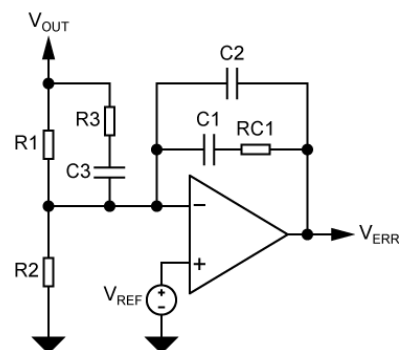

Figure 14. Type II Compensation Network
Due to the output capacitor ESR creating a zero within the range of the desired crossover frequency (F_{CO}), this design only requires that one adds one zero and one associated pole. The phase boost in this case occurs between the zero (FZ) and the pole (FP) of the compensator. Therefore, the zero gain crossover frequency (F_{CO}) will be between these two points. The zero is created by $RC1$ and $C1$. The pole should be set at $\leq$ one half switching frequency to reduce noise sensitivity. The plateau gain (gain between FZ and FP) is set by $RC1$ and $R1$, $AV_{PLATEAU} = RC1/R1$, this should be set to a modest gain of five-to-ten to improve transient response. This compensation network is shown in Figure 14.